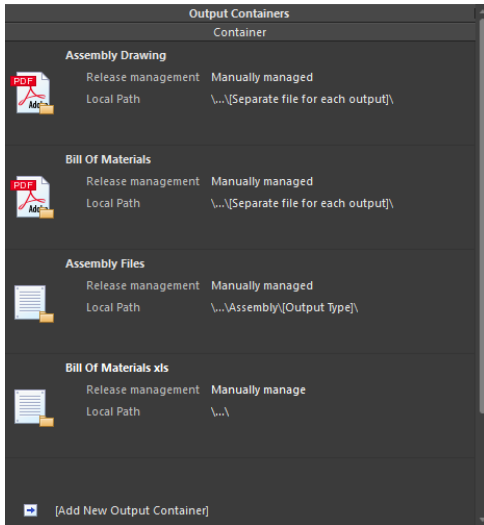

Figure 14. OutJob Output Generators
60. On the right side of the OutJob editor there are, but not limited to, four Output Containers. A PDF generator for `Assembly Drawing`, and a PDF generator for `Bill Of Materials`. Two file generators, one for `Assembly Files` and one for generating a `Bill Of Materials` as an Excel file, see Figure 14.